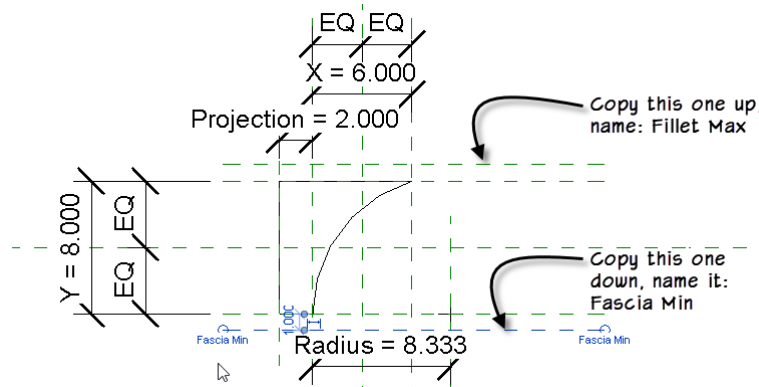

Figure 29—Copy and name two reference planes
- ⇒ Rename each of these new reference planes to: **Fillet Max** and **Fascia Min** (see Figure 29).